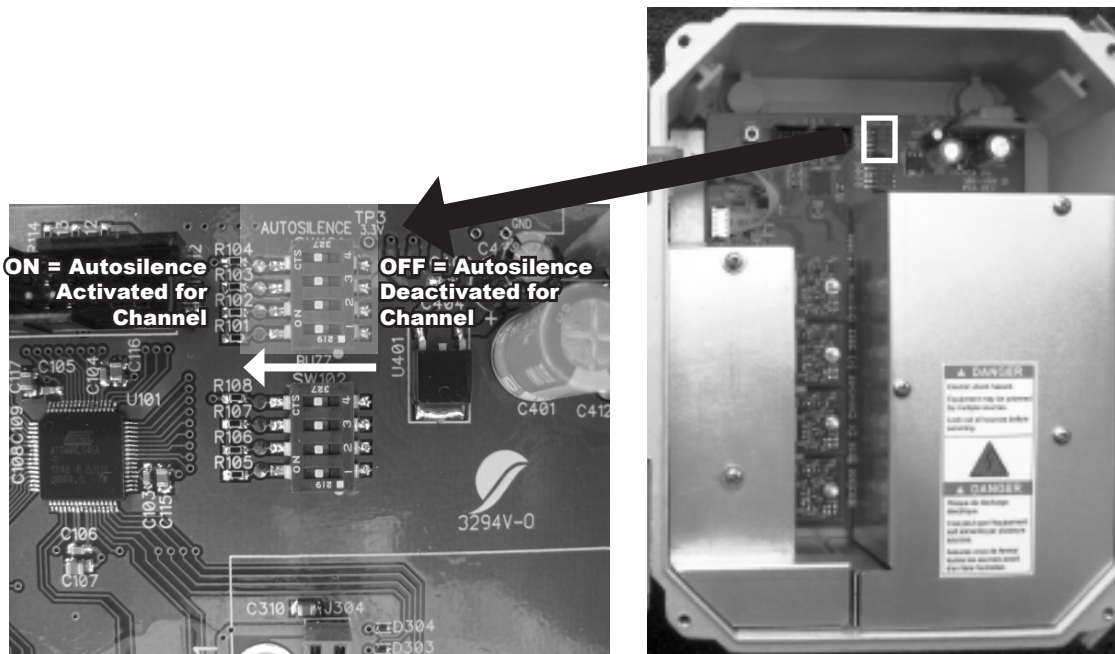

Figure 10 - Motherboard Auto-Silence Configuration
1. Locate the four position, Auto-Silence DIP switch, SW101, on the Motherboard (see Figure 10).